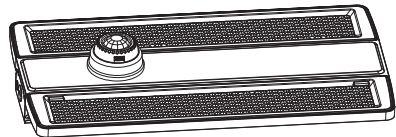

Figure 10
3. Align the sensor with the Zhaga base, insert it, and twist clockwise to lock it into place.(See Figure 10.)